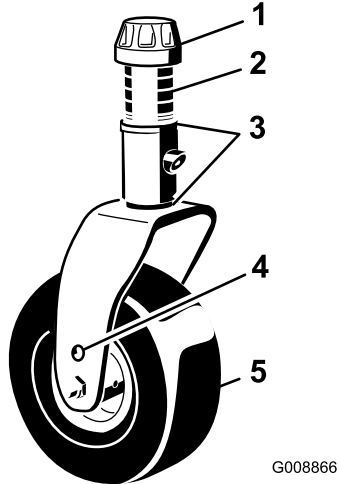

Figure 16
5. Remove the tensioning cap from the spindle shaft and slide the spindle out of the caster arm (Figure 16).